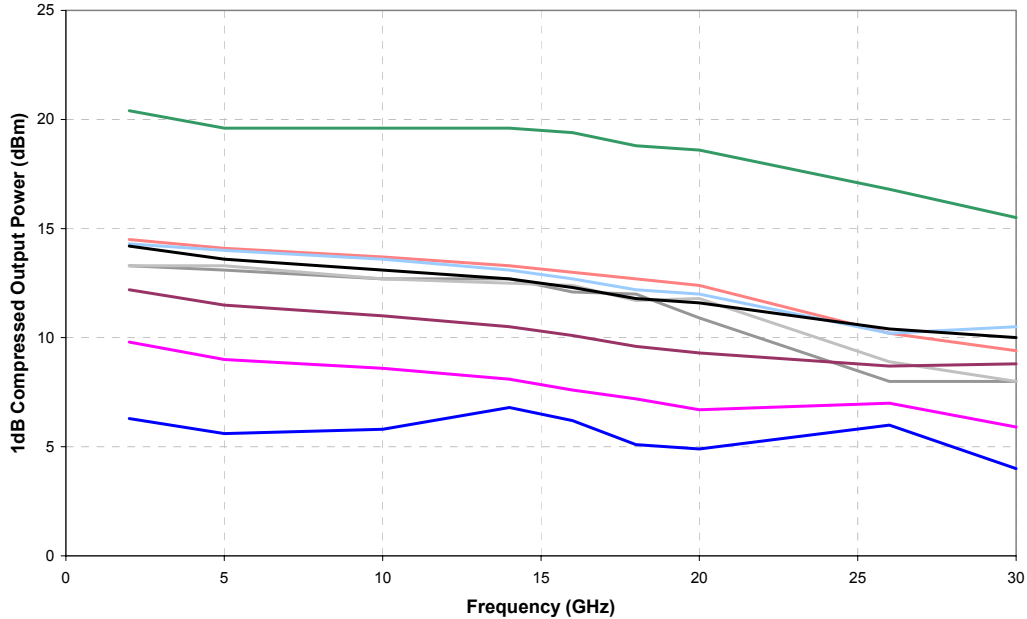

Figure 4 – Typical UATM30M2C P-1; bias values shown in Table 2
- Not ideally appropriate for power attenuation due to harmonic distortion and nonlinear gain compression (see Figure 4)